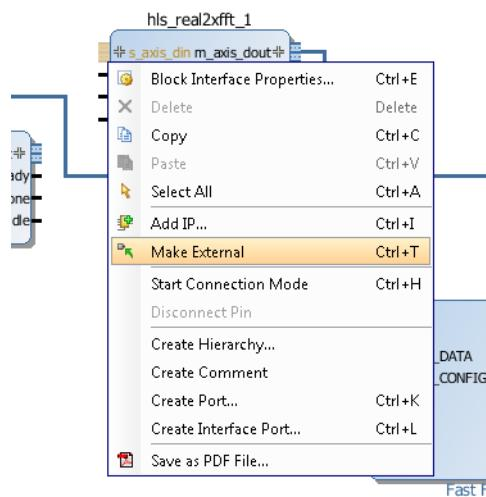

Figure 9-21: Make External Connections
10. Right-click the **s_axis_din** interface connector on the **Hls_real2xfft** block and select **Make External** (Figure 9-21).